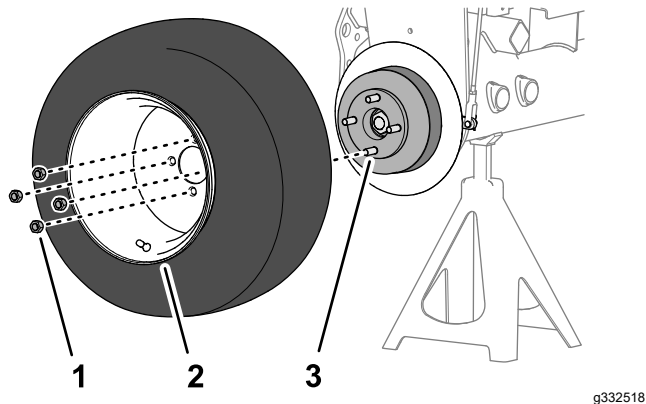

Figure 76
1. Assemble the wheel to the hub with the 4 lug nuts (Figure 76), and tighten the lug nuts by hand.